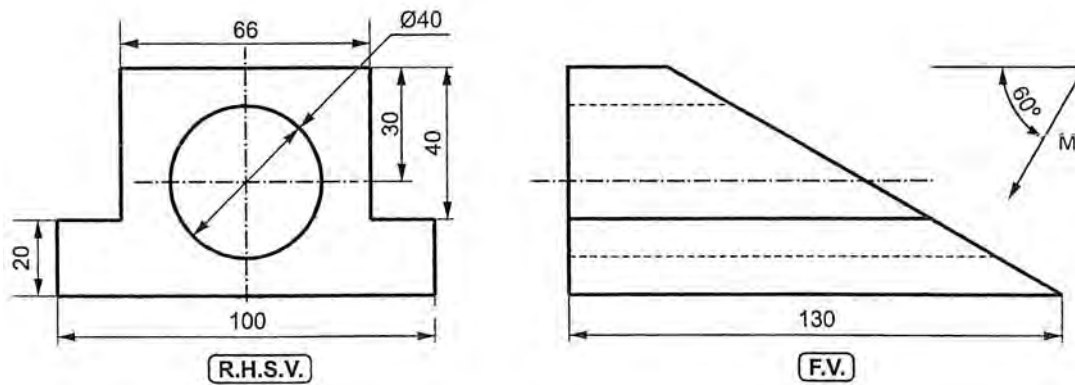

Fig. 3
5. Fig. 3 shows FV and RHSV of a block. Draw the following :